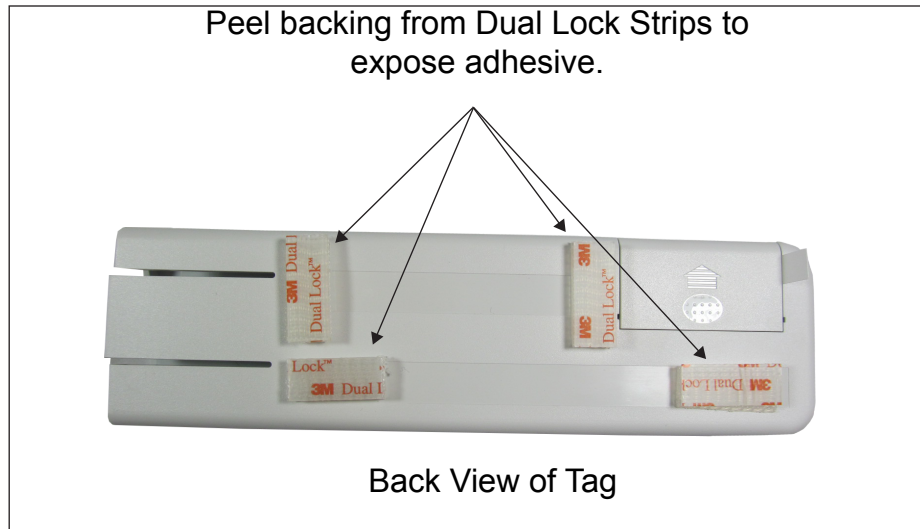

Figure 5 – Mounting PocketPass to the interior windshield
2. Peel the backing off the Dual Lock strips to expose adhesive (Figure 5). Leave both sides of the Dual Lock strips pressed together to ensure the strips will align between the PocketPass and windshield. Apply the PocketPass to the windshield using moderate pressure.